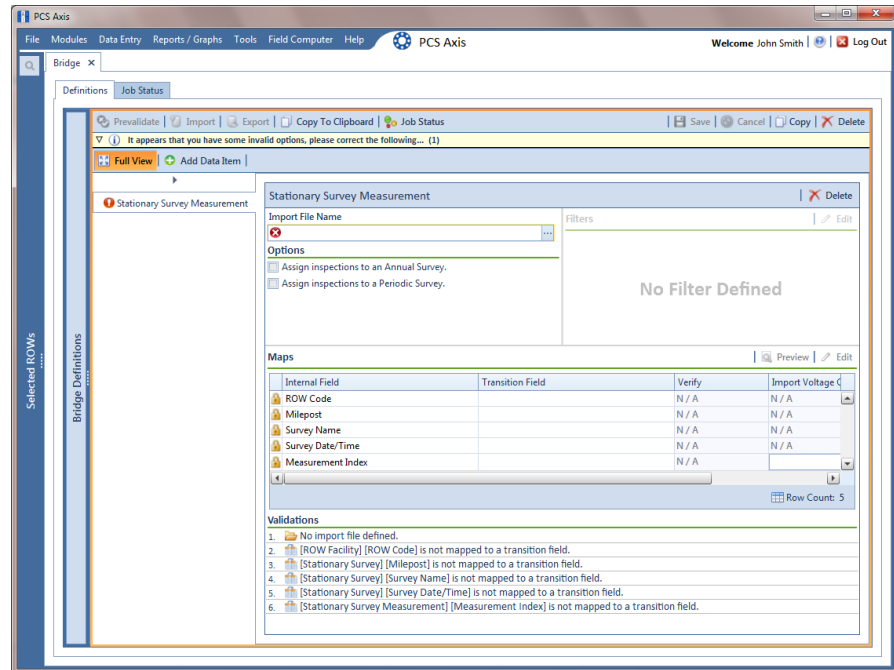

Figure 10-16. Select SDL Import File
- 10 Complete the following steps to identify the location of the SDL survey file(s) (Figure 10-16):